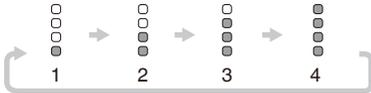

Fig. 18
- (1) High / Low mode selector switch (Fig. 18)